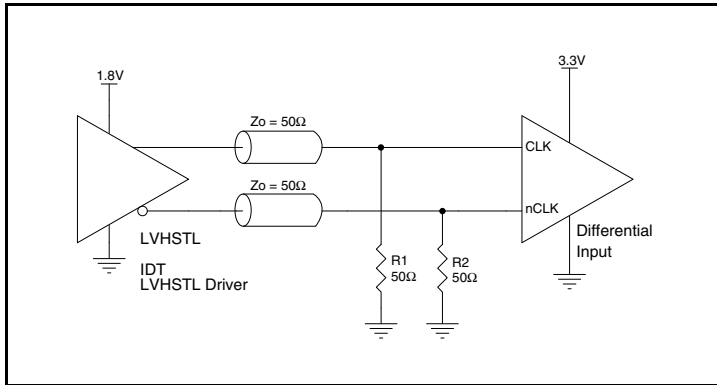

**Figure 3. Recommended Schematic for Wiring a Differential Input to Accept Single-ended Levels**
*Figure 3* shows how a differential input can be wired to accept single ended levels. The reference voltage  $V_1 = V_{DD}/2$  is generated by the bias resistors  $R1$  and  $R2$ . The bypass capacitor ( $C1$ ) is used to help filter noise on the DC bias. This bias circuit should be located as close to the input pin as possible. The ratio of  $R1$  and  $R2$  might need to be adjusted to position the  $V_1$  in the center of the input voltage swing. For example, if the input clock swing is  $2.5\text{V}$  and  $V_{DD} = 3.3\text{V}$ ,  $R1$  and  $R2$  value should be adjusted to set  $V_1$  at  $1.25\text{V}$ . The values below are for when both the single ended swing and  $V_{DD}$  are at the same voltage. This configuration requires that the sum of the output impedance of the driver ( $R_o$ ) and the series resistance ( $R_s$ ) equals the transmission line impedance. In addition, matched termination at the input will attenuate the signal in half. This can be done in one of two ways. First,  $R3$  and  $R4$  in parallel should equal the transmission